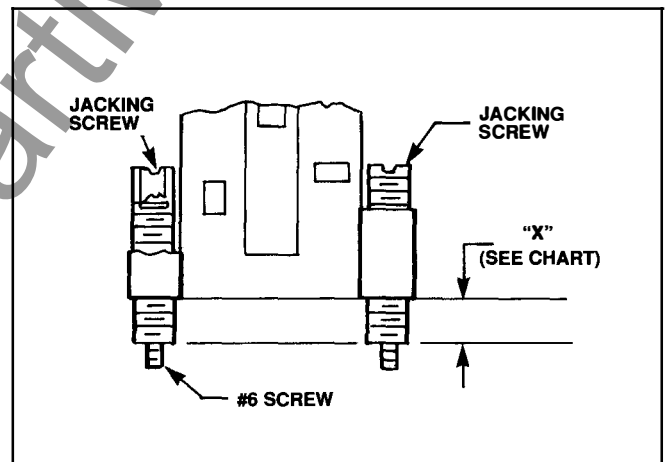

Figure 27A Mechanical Interlock-3TB44 to 3TF44
Siemens motor control centers which contain reversing, multispeed or reduced voltage motor starters may employ mechanical interlocking between contactors in the starter units. Two contactors of the same size or two contactors of different sizes may be mechanically interlocked depending on the type of motor starter. The combinations of interlocked contactors which can be supplied is shown in Table IV. Mechanical interlocking is accomplished with the interlock mechanisms shown in Figure 27A and 27B which mounts between two adjacent contactors. Dimension "X" shown in Figure 27A and 27B is factory set to the dimension shown in Table IV. The contactors and mechanical interlock mechanism should be checked periodically and adjusted if necessary to ensure that the mechanical interlock functions properly. This procedure should be performed as outlined in the following steps.
### 3TB44 to 3TB44 Contactors: (Refer to Figure 27A)
4. To check the interlock adjustment, loosen the two #6 screws on the interlock. The interlock can be raised or lowered using a large blade screw driver by turning both jacking screws (see Figure 27A) alternately with 1/2 turn; clockwise raises the interlock and counter-clockwise lowers the interlock. Make sure that the "X" dimension is maintained equal for both jack screws. Set the "X" dimension to the value shown in Table IV.